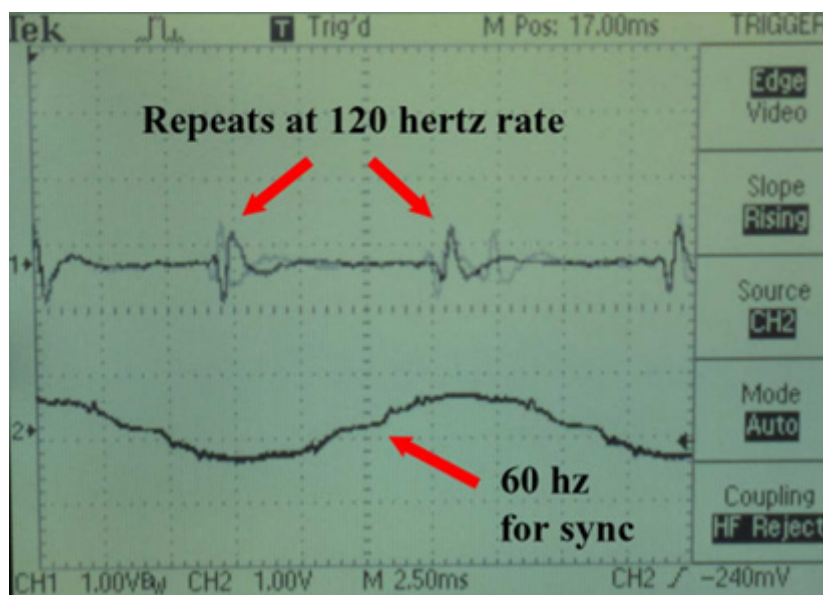

Figure 3. 60 Hz-induced EMI on a DC line. Source.
Each source can couple with power and signal traces in a design, introducing noise. Even with careful layout considerations, any direct current (DC) power line can act as an inductor that absorbs and transmits electromagnetic fields. Figure 3 shows a common scenario in which household 60 Hz power induces power glitches on a DC power line.